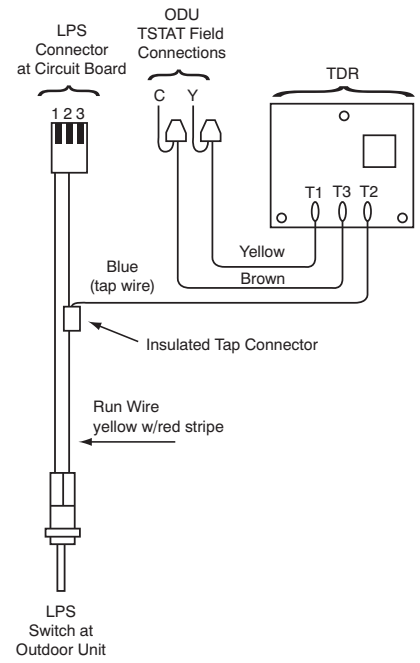

Fig. 4 - TechAssist (HK35AC005)
- TechAssist (HK35AC005) LPS run-wire is connected to pin #2 (middle pin) (see Fig. 4).